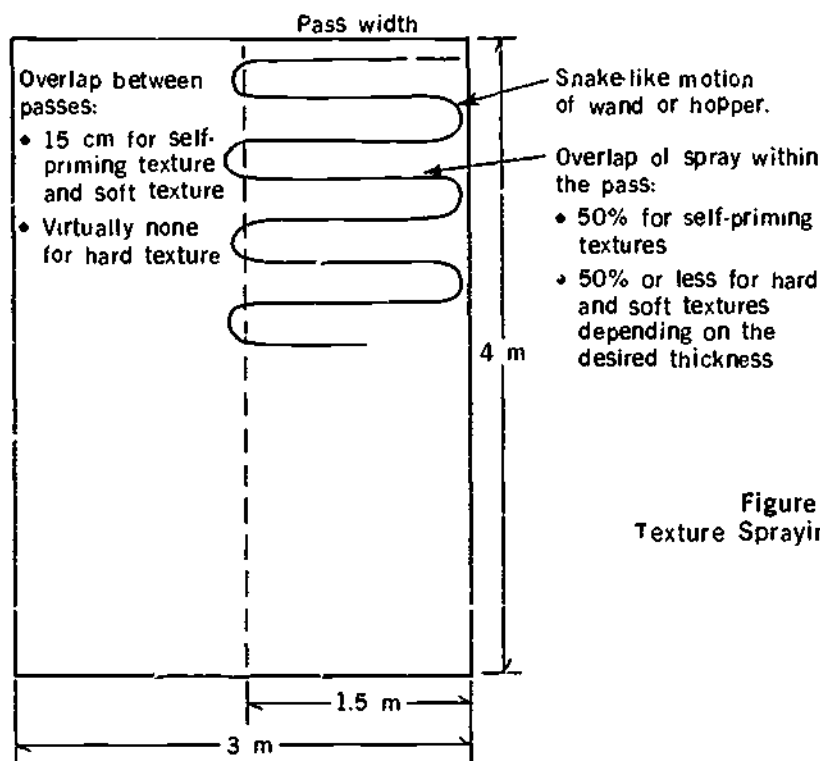

Figure 6-13
4. The wand or hopper must move in a snake-like motion back and forth across the width of the pass (Figure 6-13). To accomplish this motion the arm is held rigid while the body is rocked from side to side. The wrists should only move at the end of each pass, giving a flick as the wand or hopper is turned back the other way.